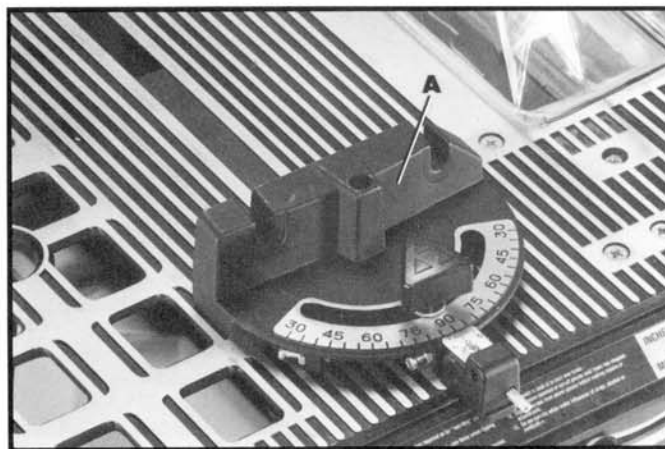

Fig. 25
When straight cross-cutting (blade set 90 degrees to the table) the miter gage (A) Fig. 25, can be used in either table slot. When bevel cross-cutting (blade tilted) only use the miter gage in the right table slot where the blade is tilted away from the miter gage and your hands.